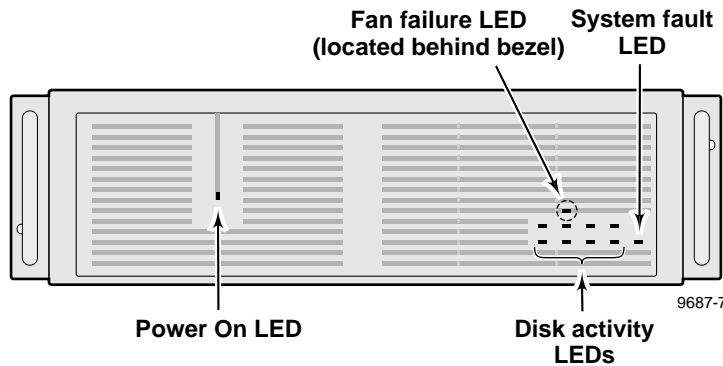

Figure 3-2. PDX208 Front Panel Indicators
- Check the indicators on the front panel (Figure 3-2) which provide information to assist in fault isolation.
Refer to Figure 3-2 in the following discussions.